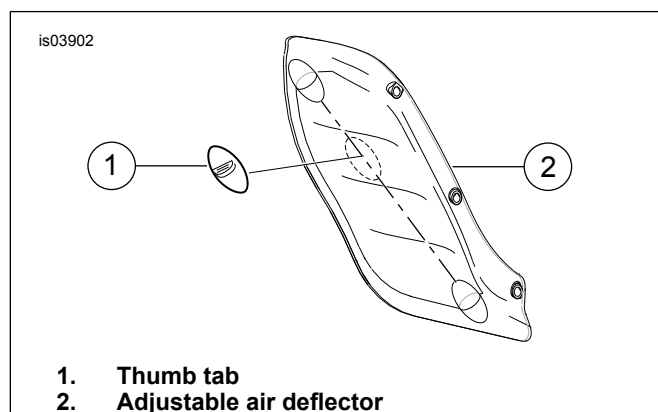

Figure 1. Install Thumb Tab (Left Side Shown)
*For easiest operation, mount the thumb tab in line with the hinges of the deflector wing, in the molded depression second from the top (see Figure 1).*
2. Obtain the alcohol wipe (5) from the kit. Open the packet, and use the wipe to thoroughly clean the thumb tab mounting area of any dirt or grease.
3. Peel the liner from the adhesive backing of the thumb tab. Carefully position the tab to the air deflector, and press firmly into the position indicated in Figure 1. Hold the tab in position with steady pressure for five minutes to ensure proper adhesion.